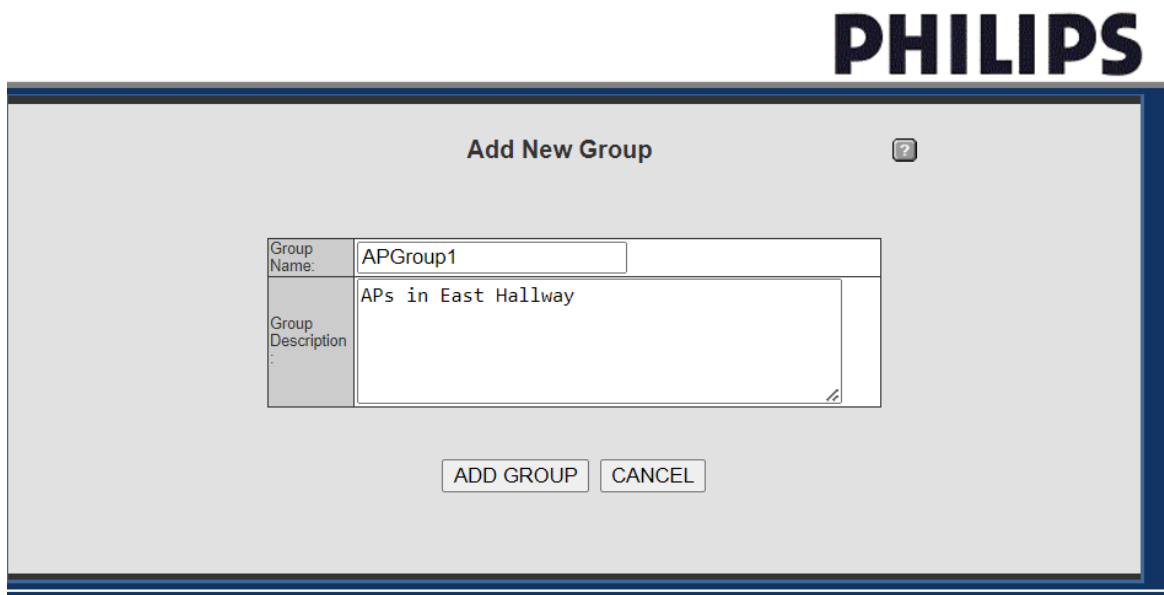

Figure 55: Adding New AP Group.
- The AP and Remote Antenna Friendly Name Management screen appears as shown in Figure 55.